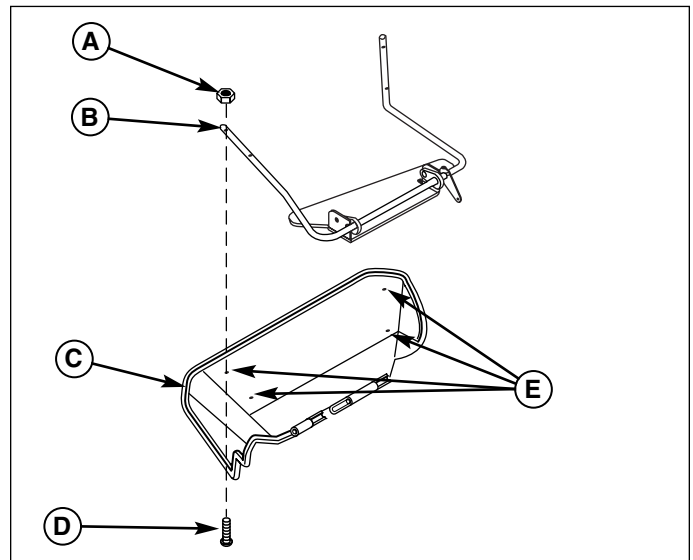

Figure 5. Assemble Deflector
5. Drill four 13/64" holes at the marked locations on the underside of the deflector assembly (E, Figure 5).
6. Secure the deflector (C, Figure 5) to the deflector hinge assembly (B) using four 10-24 x 3/4 truss head screws (D) and nylock nuts (A). Insert the screws from the bottom.